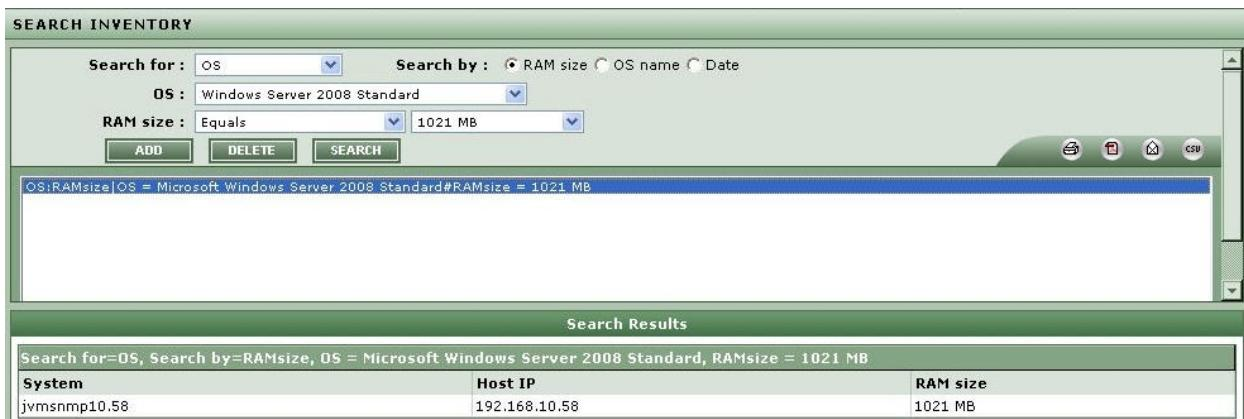

Figure 2.39: Inventory search of a operating system through RAM size wise
- RAM size:** Select this option as depicted in Figure 2.39, if you want to know which systems
- **Equals:** Select this option and then pick a RAM size from the list box adjacent to it to invoke the list of systems running the chosen OS that have been configured with the chosen RAM size (see Figure 2.39).